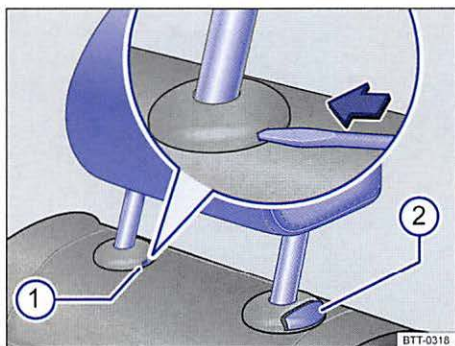

Fig. 40 Removing the rear head restraints.
- If necessary, press the flat blade of the screwdriver from the vehicle tool kit into the slit of the trim cap  **fig. 40 ①** in the direction of the arrow and hold it in this position.
- At the same time press button **②** while a second person pulls out the head restraint completely.